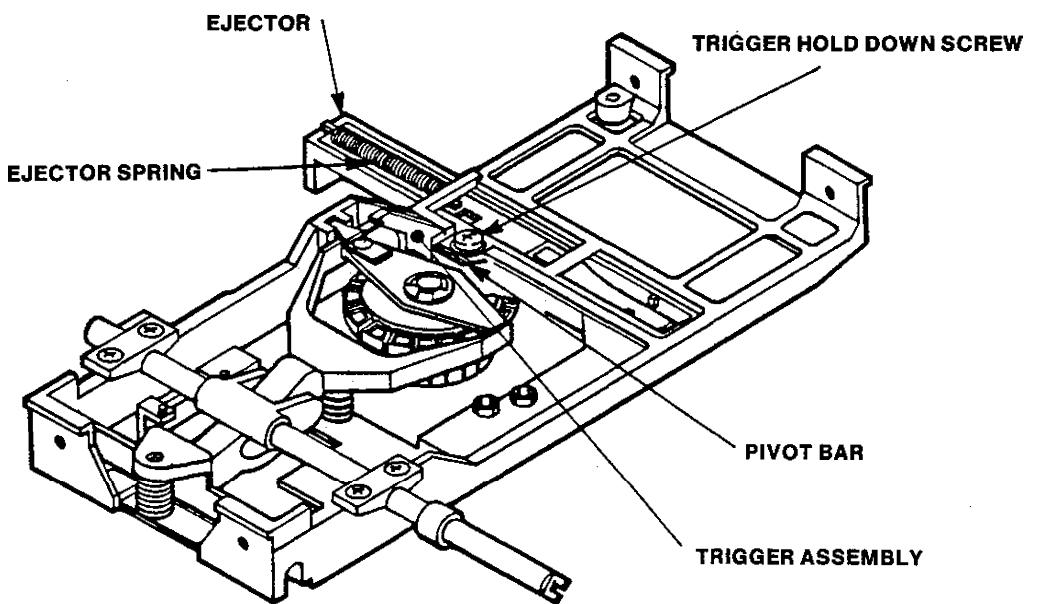

FIGURE 6-16
4. Remove the Trigger Assembly (Figure 6-16).